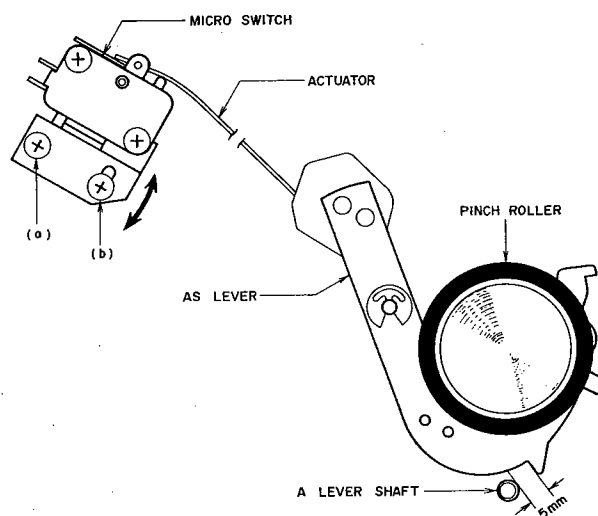

Fig. 9
5. AUTOMATIC SHUT-OFF OPERATING POINT ADJUSTMENT (Refer to Fig. 9)